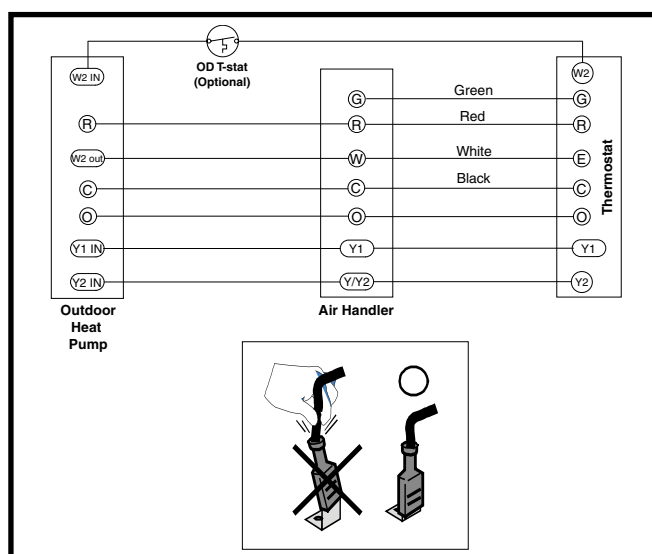

Figure 2. Typical 2 - Stage Heat Pump w/ Optional Outdoor Thermostat and Variable Speed Air Handler
- Thermostat connections should be made in accordance with the instructions supplied with the thermostat and the indoor equipment. A typical installation with a heat pump thermostat and air handler is shown in Figure 2.